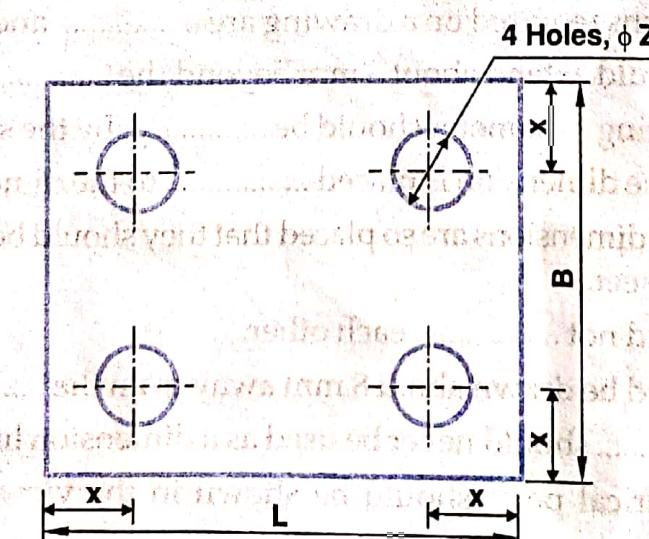

Fig. 3.27
- 3.1 For the view, as shown in Fig. 3.27, indicate the chain, parallel and combination dimensioning by using any sizes.